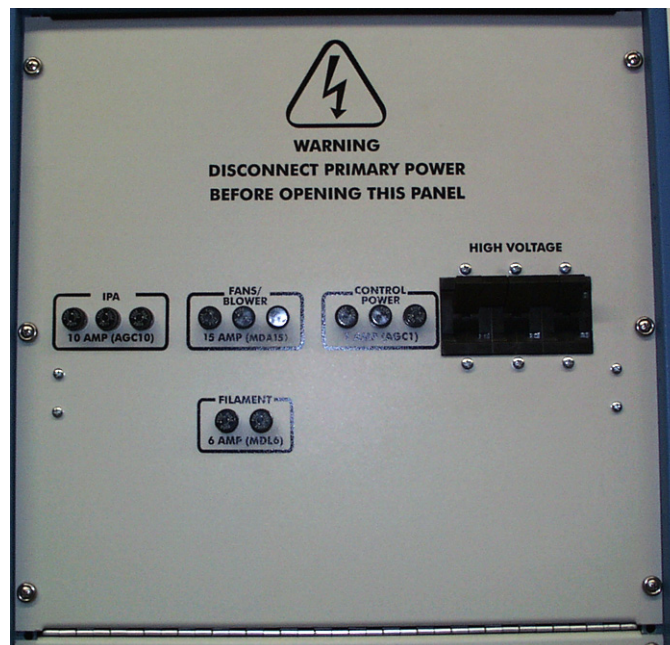

Figure 3-2
3.1.2 Breaker Panel PSA3 Assembly (See Figure 3-2)